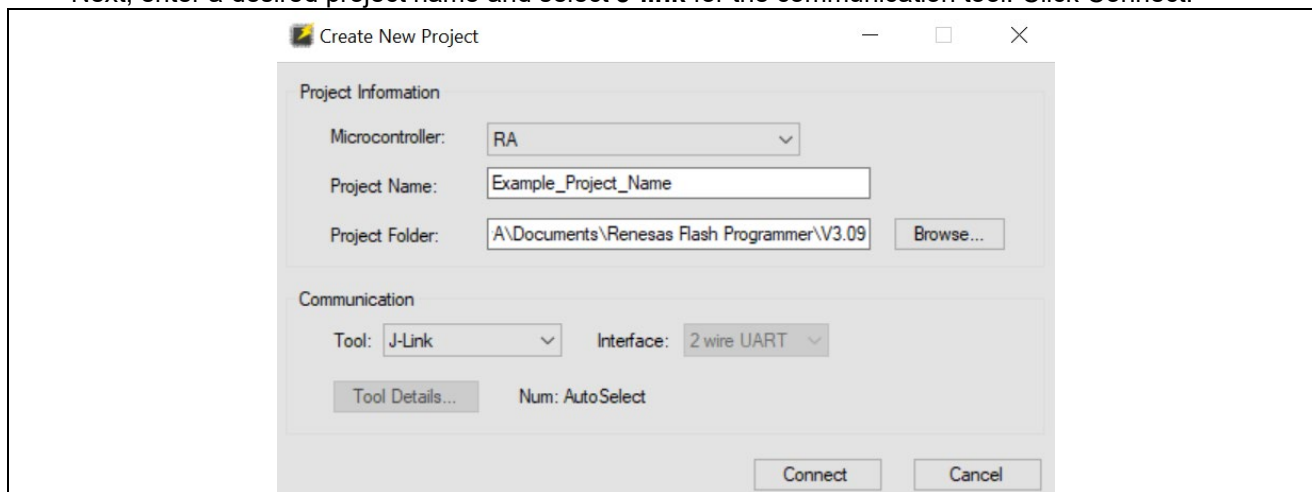

Figure 2. Creating a New Project on Renesas Flash Programmer
3. In the Create a New Project window (Figure 2), Select the **RA** family from the Microcontroller drop-down. Next, enter a desired project name and select **J-link** for the communication tool. Click Connect.